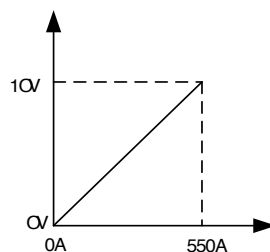

Figure 5-18 Corresponding relation of given current
2. Corresponding relation of given current is shown in Figure 5-18.